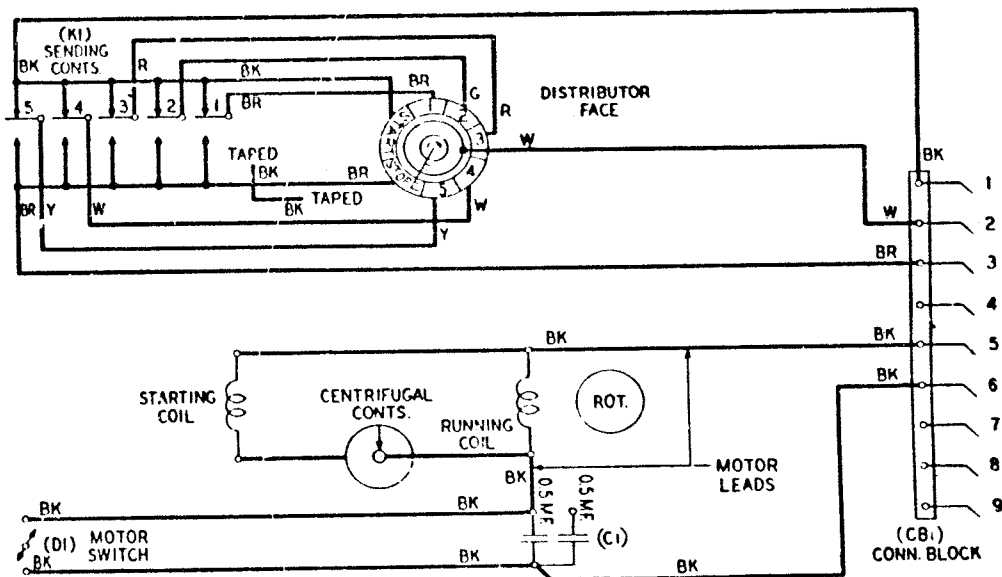

Figure 4 - 14F, 14G, 14P, and 14AW Transmitter-Distributors (Synchronous Motor)
1.04 Figures 4 and 5 cover the wiring of test message transmitter-distributors which are used in connection with central office apparatus.